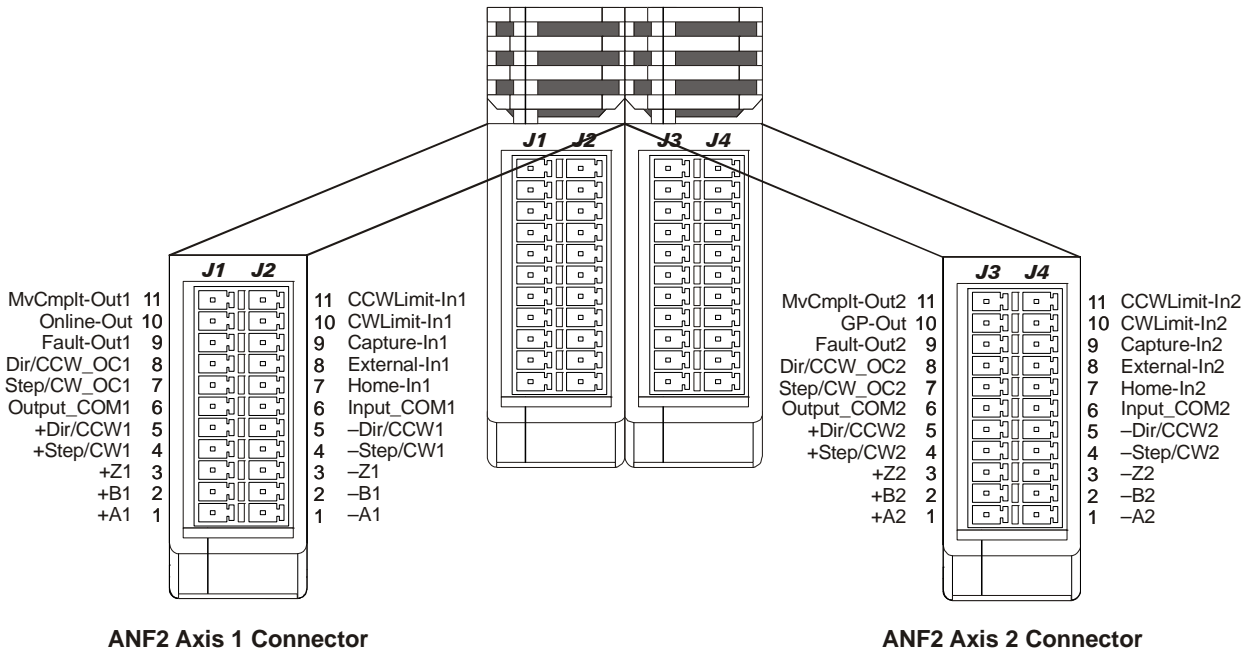

Figure R1.4 I/O Connector Pin Out
Figure R1.4 below shows the pin out of the I/O connectors on the IANF2(E) modules. All mating connectors are included with the module. Additional connectors can be order for IDEC under the part number IMS-2x11.